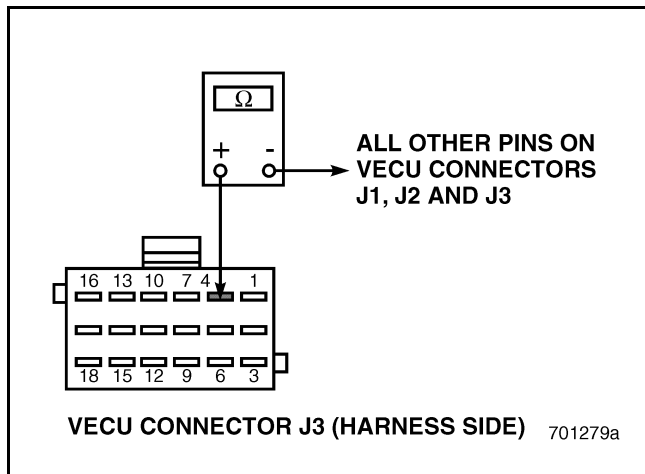

Figure 557
3. Check for continuity between VECU connector J3 pin 4 and all other pins on VECU connectors J1, J2 and J3 (see Figure 557).